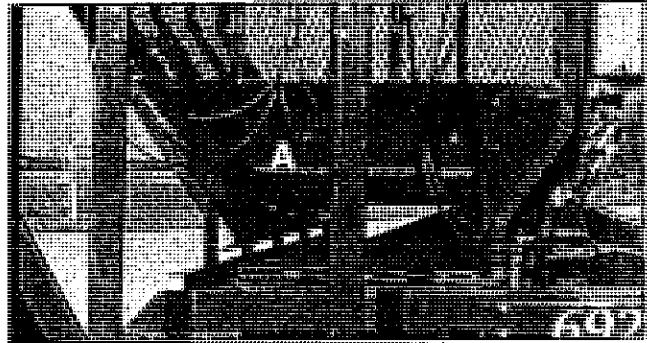

Figure 2.23: Tank Discharge Gate. (A) - Discharge Gate.
A sliding gate (A) (see Figure 2.23) is provided in the tank discharge opening. This can be raised or lowered to vary the beet discharge rate from the tank for various beet sizes, unloading speeds and operating conditions.